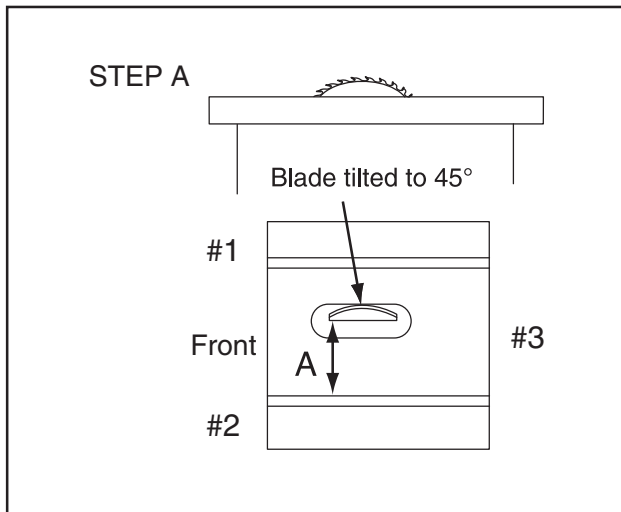

Figure 130. Shim procedure diagram A.
10. Refer to **Figures 130–131** for shim placement. If the distance of A is shorter than B, shim(s) will need to be placed under corners #1 and #2. If the distance of B is shorter than A, shim(s) will need to be placed under corner #3. Very thin shim stock works well.